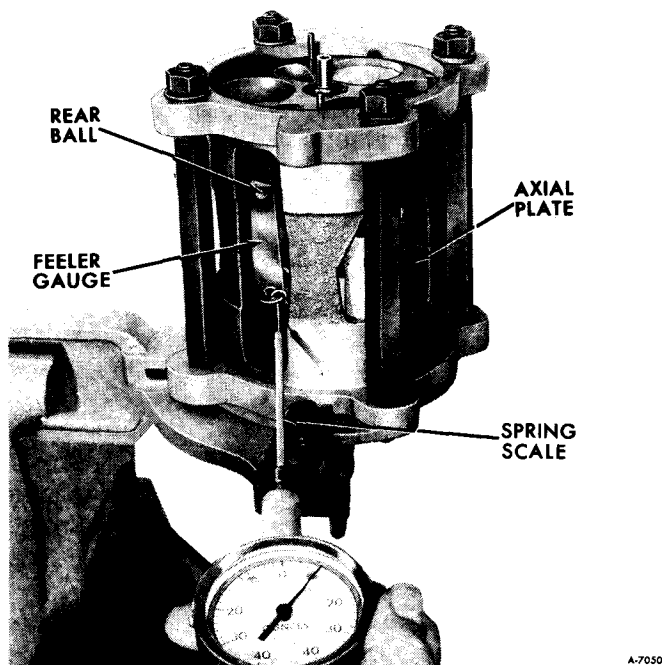

Figure 110—Gauging Rear Piston Ball
c. Pull on spring scale to slide feeler gauge stock out from between ball and axial plate, and note reading on spring scale as feeler gauge is removed (figure 110). Reading should be between 4 and 8 ounces.